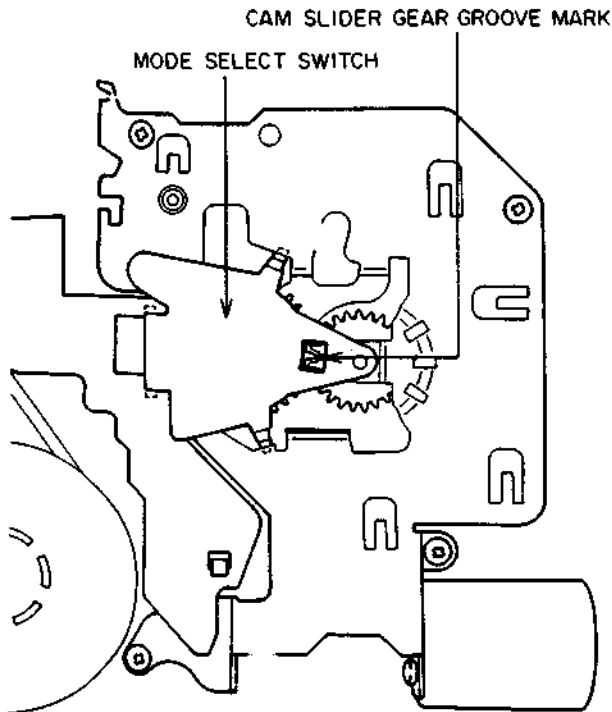

Fig. 4-4
*Before proceeding with removal of the SENSOR PCB the loading mechanism must be set to the "unloaded" position (the position where the CAM SLIDER GEAR's groove mark is visible through the hole of the MODE SELECT SW.) as shown in Fig.4-4.